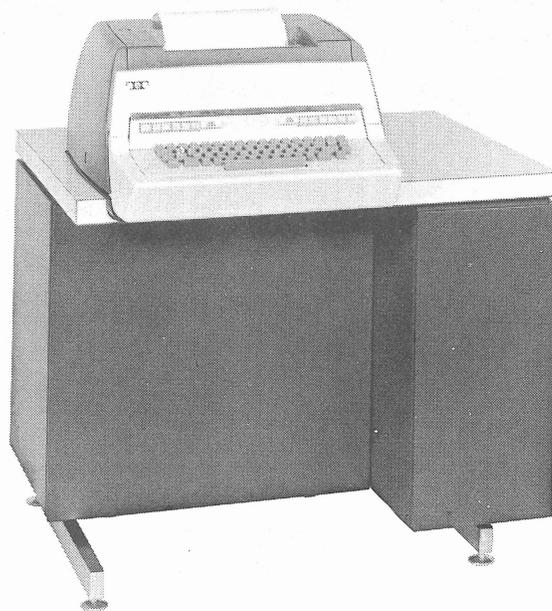

Figure 1 - 37 KSR Teletypewriter Set
1.01 This section provides removal and replacement of component information for the 37 Keyboard Send-Receive (KSR) Teletypewriter Set (Figure 1).
1.03 References in the procedures to left or right, up or down, top or bottom, etc, refer to the unit viewed with the keytops and controls facing the front (Figure 1).